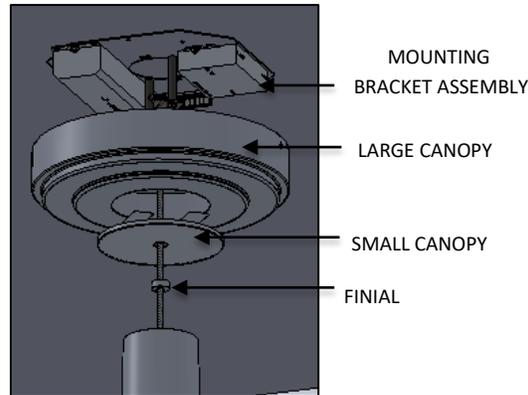

FIG. 16 – FINIAL INSTALLATION
8. Raise CANOPY and secure to ceiling by threading the FINIAL as shown below in FIG. 16 to the NIPPLE (available in MOUNTING BRACKET ASSEMBLY).